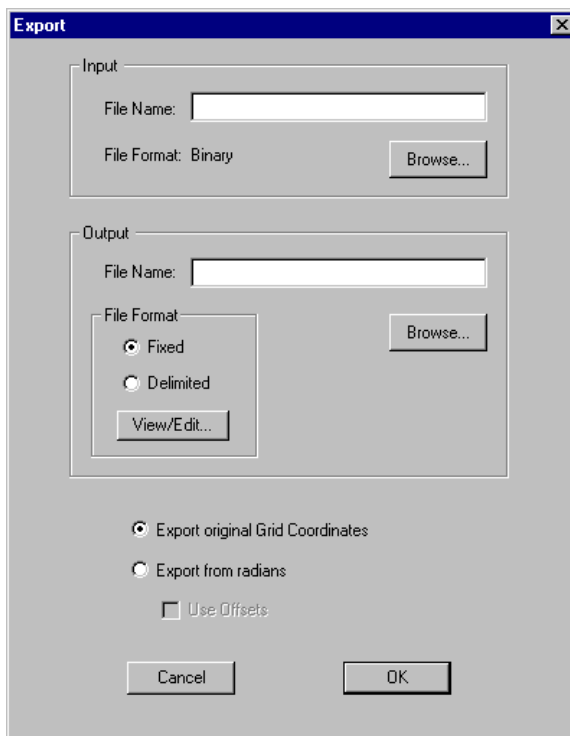

Figure 2.12. Export Dialog Box
1. Click the Export... button in the MConvert main window to open the Export dialog box (Figure 2.12).